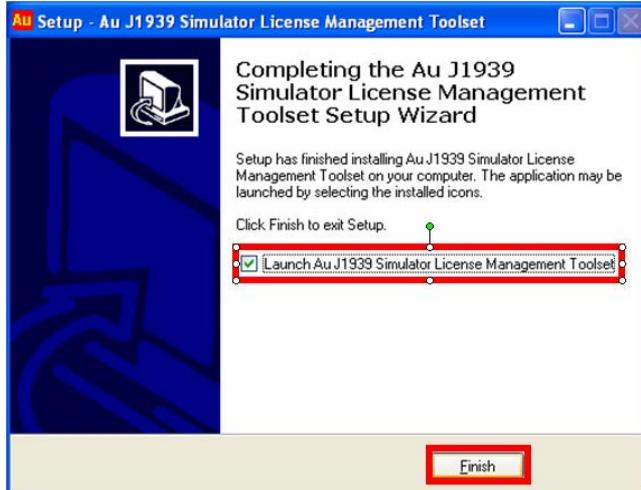
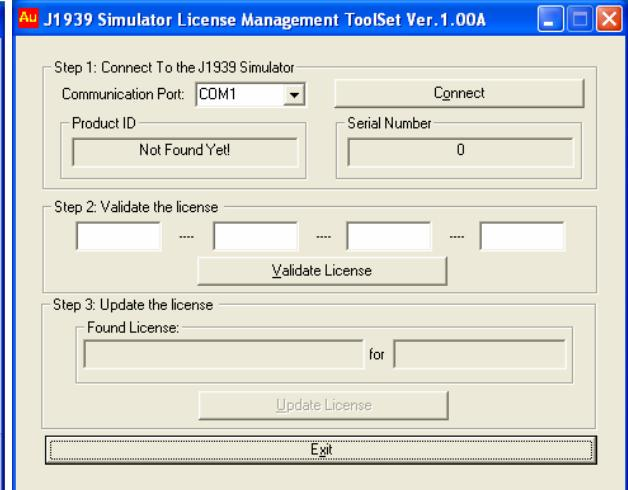

Figure B-8
Figure B-9
8. Wait until “Completing Au J1939 Simulator License Management Toolset Setup Wizard” window shows up, check “launch Au J1939 Simulator License Management Toolset”, then click “Finish” (Figure B-8, Figure B-9).